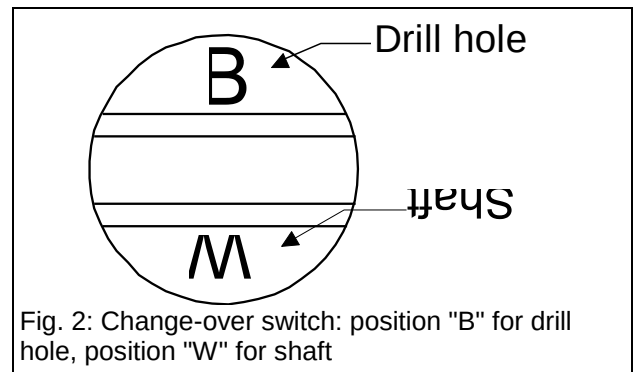

Fig. 2: Change-over switch: position "B" for drill hole, position "W" for shaft
- Set the change-over switch: "B" for drill hole, "W" for shaft (Fig. 2)